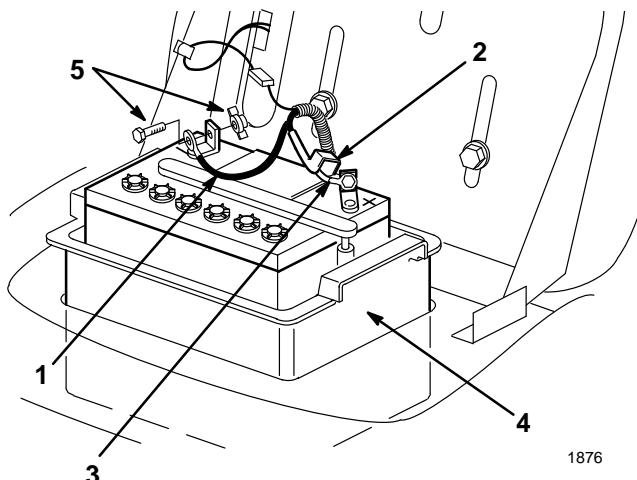

Figure 17
3. Disconnect the negative (black) ground cable from the battery post (Fig. 17).
4. Slide the rubber cover up the positive (red) cable. Disconnect the positive (red) cable from the battery post (Fig. 17).
3. Using the bolt and wing nut, connect the positive (red) cable to the positive (+) battery post (Fig. 17). Slide the rubber cover over the battery post.
4. Using the bolt and wing nut, connect the negative (black) cable to the negative (-) battery post (Fig. 17).